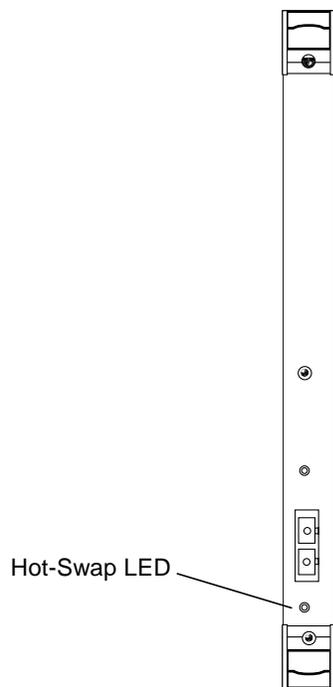

FIGURE 4-7 Location of the Front-Access Adapter's Hot Swap LED
- 10. Locate the hot-swap LED on the adapter to determine if the adapter has been activated and is attached to the system (see FIGURE 4-7).**
- 3. During the power on sequence, watch the hot-swap LED on the adapter (FIGURE 4-7).**